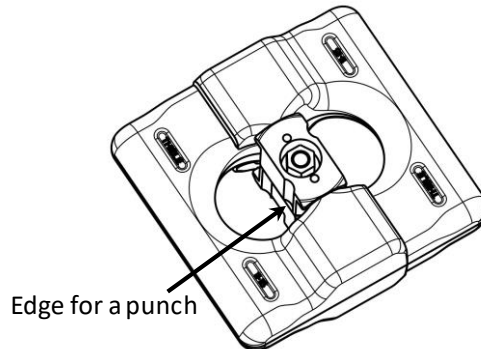

Figure 4: Lock remove
- To disassemble the lock halves, strike the lock on the lower overhang using the hammer and punch. The side pockets in the upper half provide a space for the punch (refer Figure 4 below). Alternate between both sides until the two halves are free.